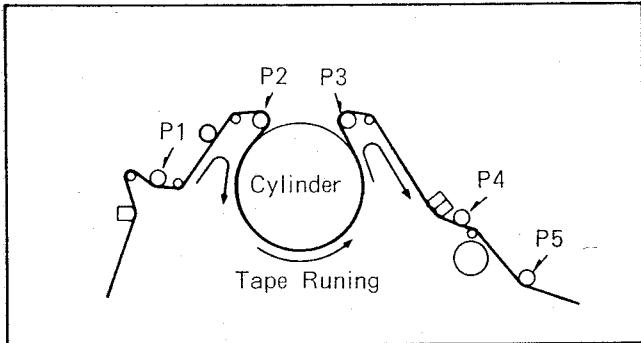
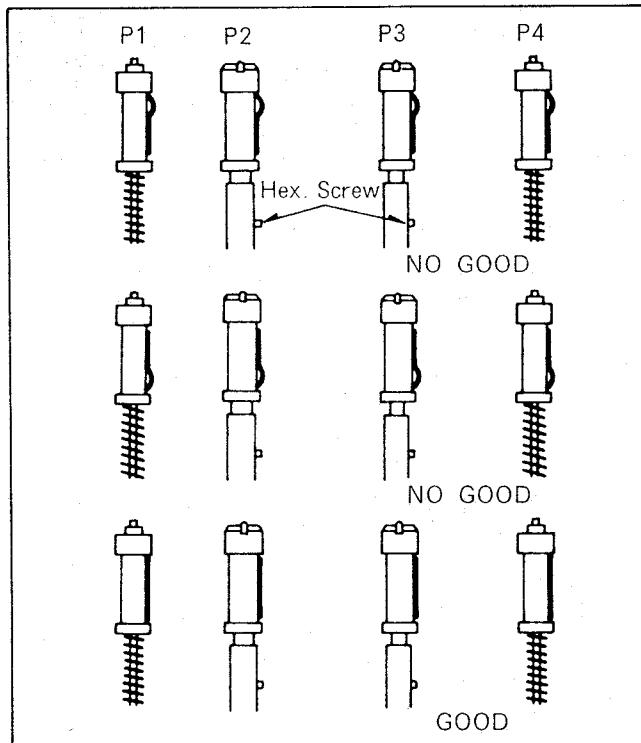

Fig. M4 Tape Transport Posts
Fig. M5 Tape Guide Posts
Playback the normal cassette tape and confirm that the tape travels without any curling at the edges of all the posts by using the check light. (Fig. M4 and Fig. M5)
- If curling is apparent, adjust the height of posts by turning the top of post with the post adjustment screwdriver (posts P2 and P3) or the nut-driver (Posts P1 and P4). (Fig. M4 and M5)